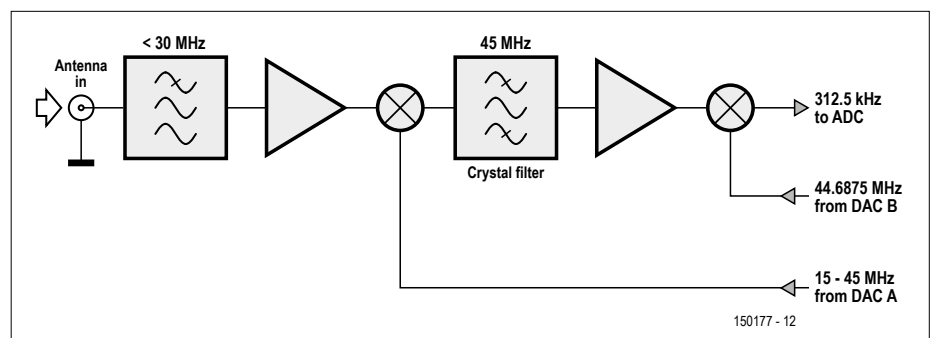

Figure 2. Block diagram of a radio add-on board.
When the push-to-talk (PTT) signal on header K7 is pulled logic Low (see Part 1, Figure 2), the FPGA goes into transmit mode. A CW carrier can then be generated with the DDS block in the FPGA, through the DAC, by pulling the KEY signal Low.
We now present a simple radio board for shortwave (SW) reception (i.e. downwards of 30 MHz). It is constructed according to the block diagram shown in **Figure 2**.